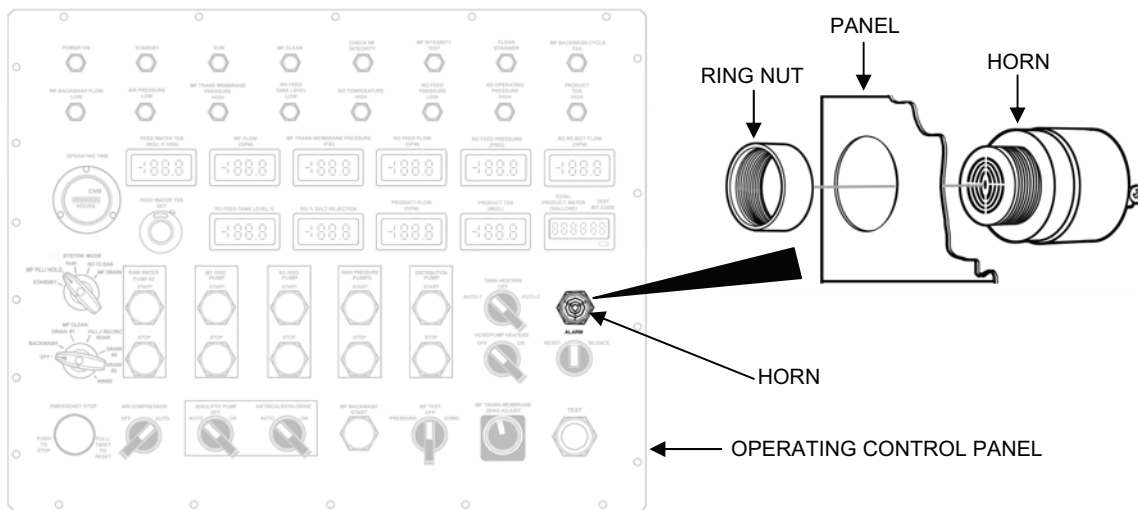

Figure 12. Alarm Horn Assembly Replacement.
1. Remove the alarm horn as follows (see Figure 12):